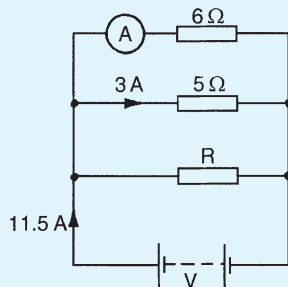

Figure 5.29
- For the circuit shown in Fig. 5.29 determine (a) the reading on the ammeter and (b) the value of resistor R .